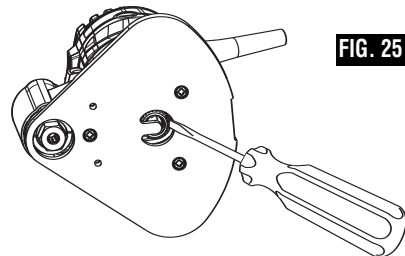

FIG. 25
3. Insert screwdriver (not included) through the U-shaped opening in the subbase to fit belt over drive pulley. (Fig. 25)